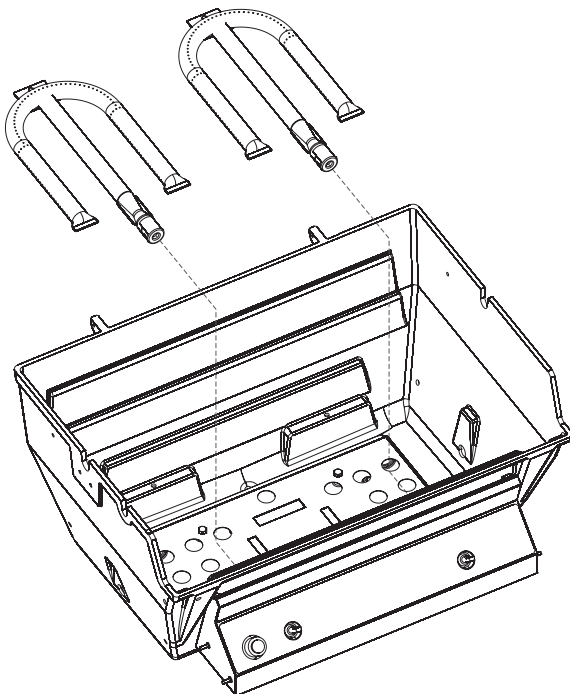

Figure 2
3. Place burners (8) into grill and insert burner tubes over orifice fittings on valve (17). Secure each burner with one (1) 1/4-20 x 3/4 phillips screw. See Figures 2, 3 and 4.